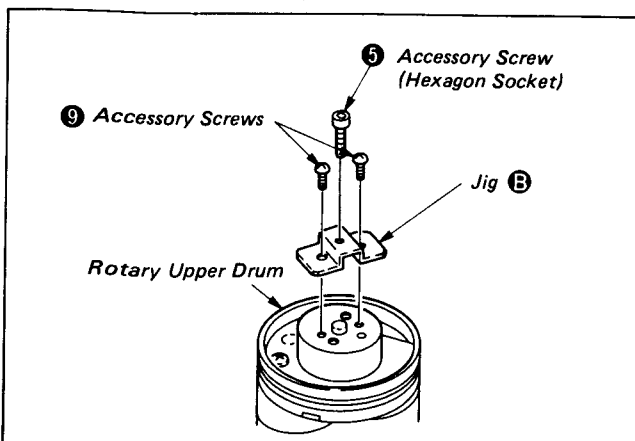

Fig. 1-50
- 4) Remount the dismounting Jig B by the accessory screws ④ utilizing the screw holes in which the dynamic damper was mounted. Drive the hexagon socket screw ⑤ into the jig and pulled up the rotary upper drum ⑥. (See Fig. 1-50.)